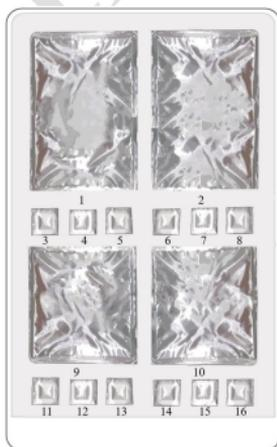

Figure 6-1: Well Position
- Before using the cartridge, dNTPs Mix IV, dNTPs Mix II and Sequencing Enzyme Mix need to be added into wells No.9 and No.10. The mixture of MDA Enzyme Mix and MDA Reagent will need to be added into well No.8. Well positions are shown in Figure 6-1.